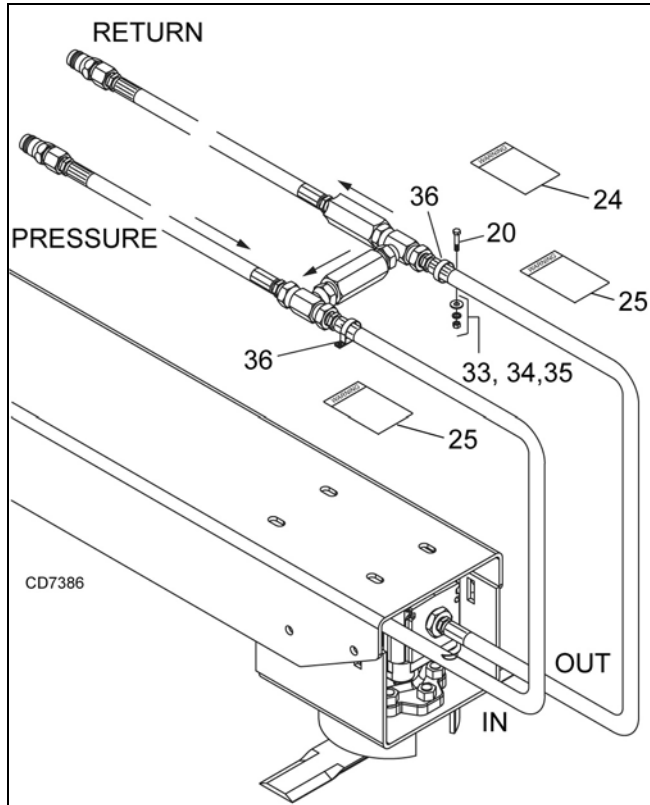

Figure 57. Hose Clamp Installation
1. Place hose clamps (36) around hoses (11) and center hoses between center plate.
3. Secure hose clamps to shredder using 5/16 NF x 1-1/4 cap screws (20), flat washers (33), lock washers (34) and hex nuts (35). See Figure 57.
Apply safety decals (24 & 25) to a clean surface on the back of the shredder where they can be seen with out obstructions. Install decals (25) on either side of the hose assembly. See Figure 57.